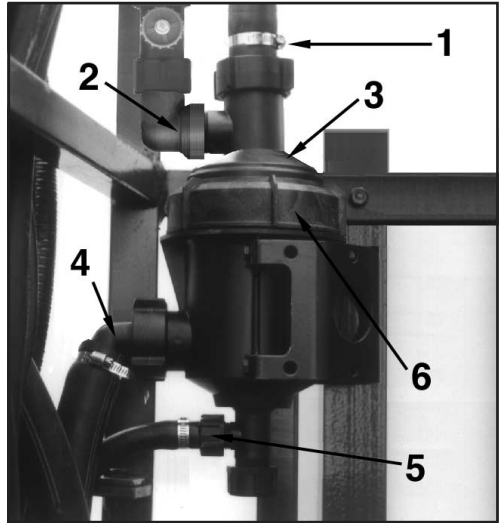

Fig. 35
To clean or replace filter, loosen nut (6) (Fig.35) to remove filter housing cover (3) (Fig.35) lift filter screen out. Replace screen and filter housing cover. Press down on cover (3) (Fig.35) and turn the cover nut (6) (Fig.35) clockwise until snug.